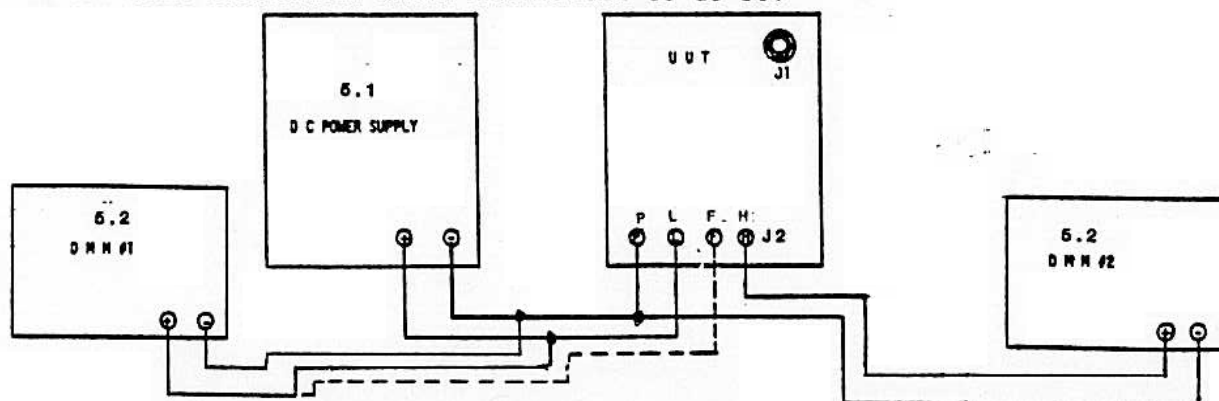

Figure 5.4. Crystal Aging Compensation Test Setup.
- 5.13.1.1 Connect the equipment as shown in Figure 5.4, but do not make the dotted-line connection until instructed to do so.